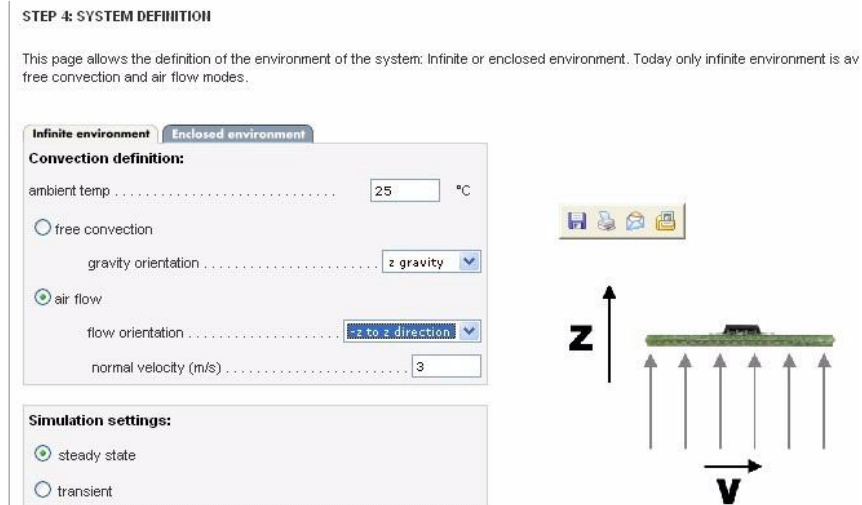

Figure 37.
- **-Z to Z direction** for air blowing from the bottom with the component on the top side (see Figure 37).